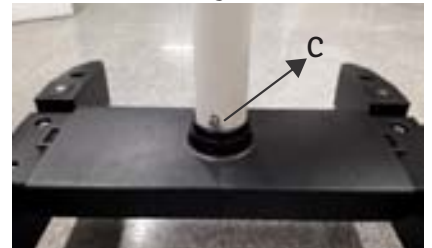

Fig 14
2. Tighten three allen screws from the sides, shown as C in Fig 14.